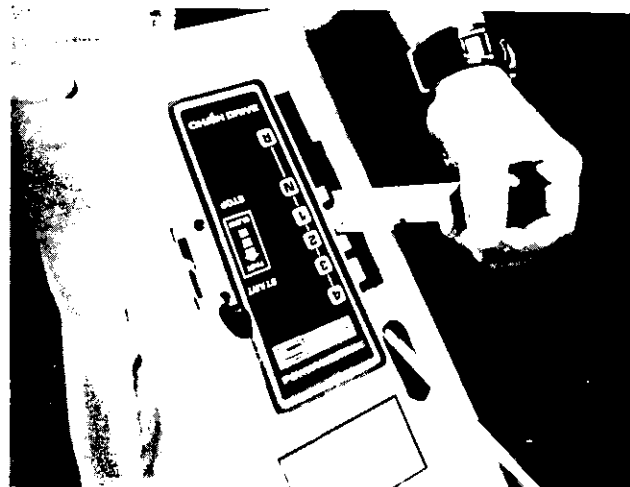

FIGURE 26.
- A. Forward (F)—Move the lever to the right and down (Forward) to set unit in motion. See figure 26.